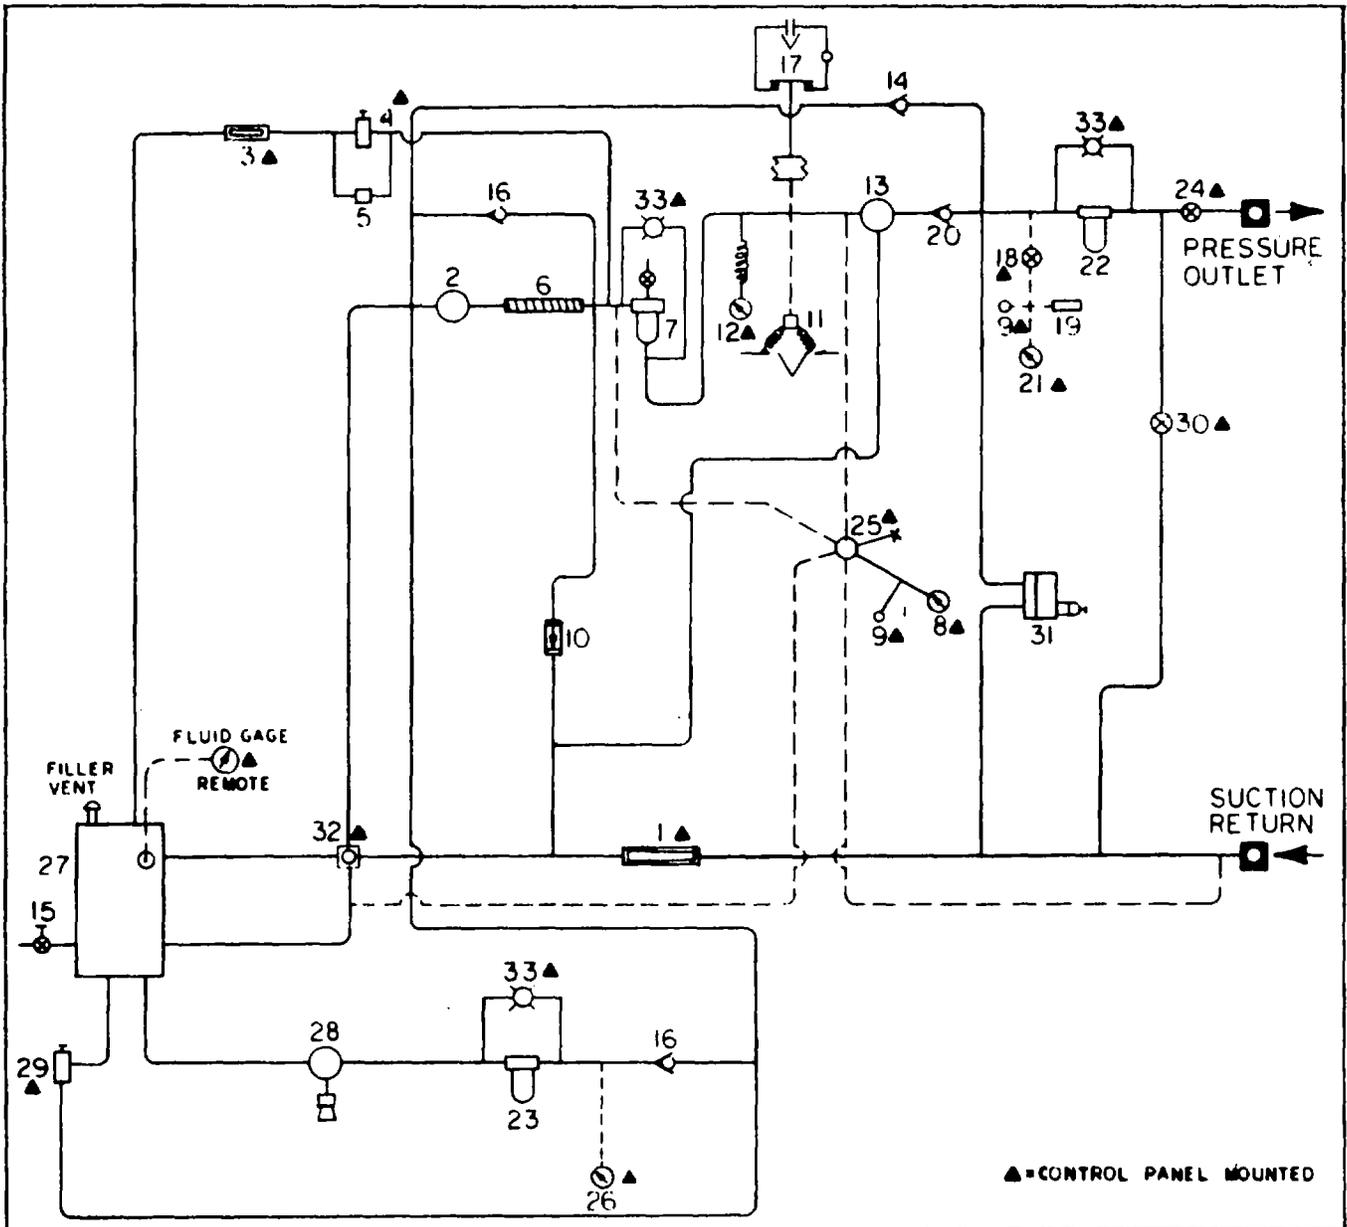

FIGURE 1-4. HYDRAULIC SCHEMATIC DIAGRAM
Bleed system. (refer to figure 1-4). The test stand hydraulic system incorporates a bleed valve (4) to eliminate entrapped air from the system and sight glass to observe the fluid flow to the hydraulic reservoir. The valve is actuated by pressing in on the spring loaded valve stem with a push-type handle on the control panel. Air and fluid are bled to the reservoir from the low pressure filter and the cooler. A thermal relief valve in parallel with the bleed valve prevents increased pressure in the cooler and filter caused by thermal expansion.
a. (See figure 1-4). The boost pump (2) fluid from the aircraft through the suction return port and flowmeter (1). The output of the boost pump is passed through the cooler (6) and the low pressure filter (7) to the suction side of the high pressure pump (13). The boost pump pressure is controlled by the low pressure relief valve (10). The output of the high pressure pump is passed through the high pressure check valve (20), the high pressure filter (22), the flow control valve (24) and the pressure outlet to the aircraft. The output pressure is controlled by the high pressure relief valve (31) and a compensator control on the high pressure pump. The output is controlled by the flow control valve (24), and regulated by a volume control on the high pressure pump.
b. The flowmeter (1) is a transparent tube type equipped with a metal float. The flowmeter scale is calibrated for 3 to 30 gpm of hydraulic fluid at 125° F. A calibration curve is mounted on the control and instrument panel access cover. This calibration curve is used for converting flowmeter indications at various fluid temperatures.
c. The fill and bleed system can be operating in either the bleed or fill mode. In the fill or bleed mode of operation, the fill pump motor and pump (28) are energized by the fill pump switch. When a fill valve (30) is opened, the fill pump draws fluid from the oil reservoir (27) and passes fluid through the fill pump filter (23), low pressure check valve (16) and the actuated fill valve.
d. In the bleed mode of operation, when a bleed valve (4) pushbutton is depressed, fluid flows from the low pressure filter (7) through the actuated bleed valve (4) to oil reservoir (27). The bleed valve system consists of a spring-loaded shutoff valve and a sight gage (3). The sight gage is a transparent tube that provides a means of checking the air bleed operation.
The item numbers used on the hydraulic schematic diagram, figure 1-4, are those assigned to the same components on the unit and used on the marker plates on the control panel. Control settings are explained in table 2-2.